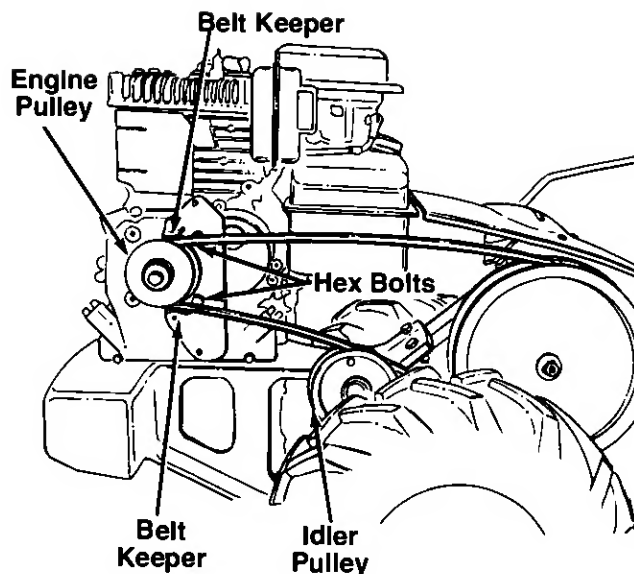

FIGURE 11.
3. Remove the belt keeper assembly located behind the engine pulley by removing two hex bolts and lock washers. See figure 11.
NOTE: Upon reassembly, make certain the belt is routed over the idler pulley and inside of belt keepers by engine pulley. See figure 11.